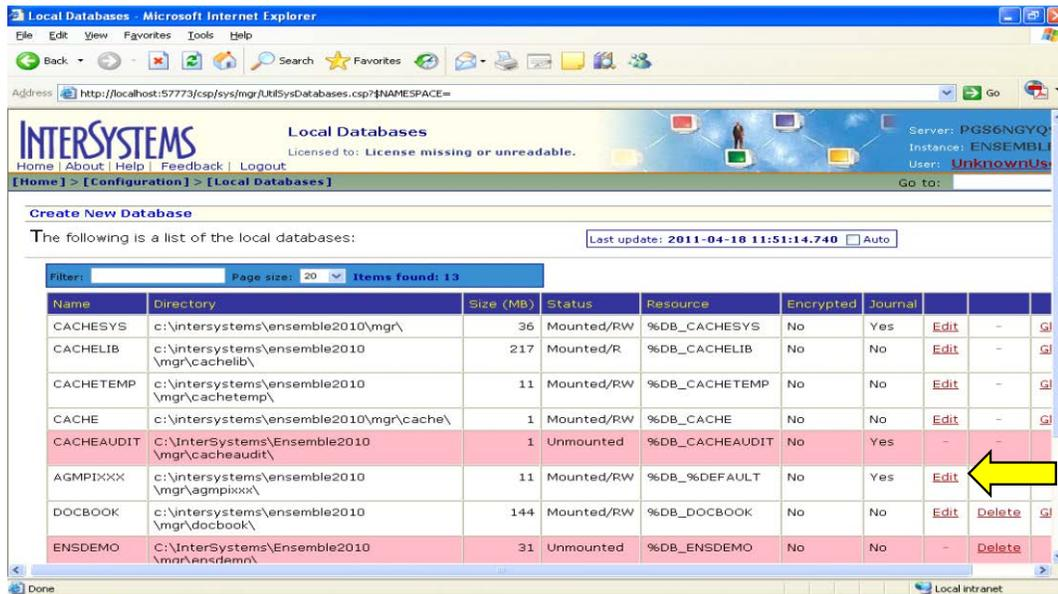

Figure 4-17: Editing the AGMPIxxx database from the **Local Databases** page
3. On the **Local Databases** page, locate the **AGMPIxxx** database in the list and click **Edit** to open the **Database Properties** page, as shown in Figure 4-17.